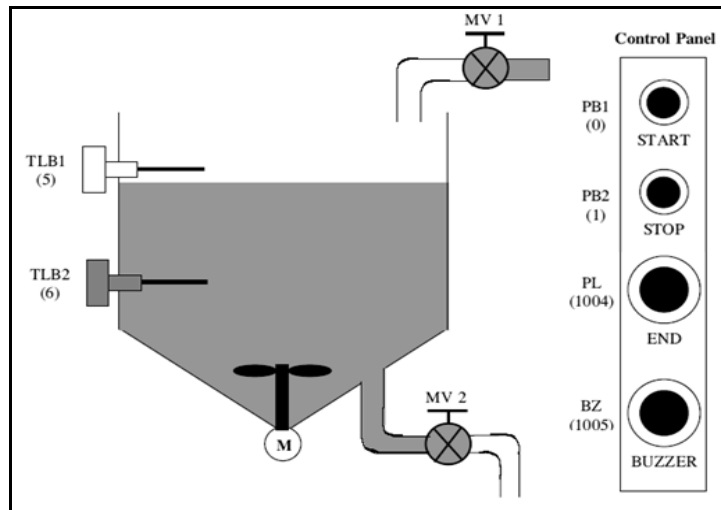

Figure 4(b) / Rajah 4(b)
- b) Construct a ladder diagram for the control system in Figure 4(a) that shows a filling and production control system. The operation of the system is when the push-button start (PB1) is pressed, MV1 valve will open and the liquid will flow into the tank. At the same time, the blender motor begins function. When the liquid passes TLB2 and hit the TLB1, MV1 valve will shut off and the blender motor will stop. The valve MV2 will be open and fluid will flow out of the tank. MV2 will close when the liquid level was below the TLB2. Once the process is repeated four times, the END indicator (PL) will turn ON. The process of filling and production of liquid at the tank will stop even if PB1 is pressed. The input and output use for the system is in Table 4(b) below.